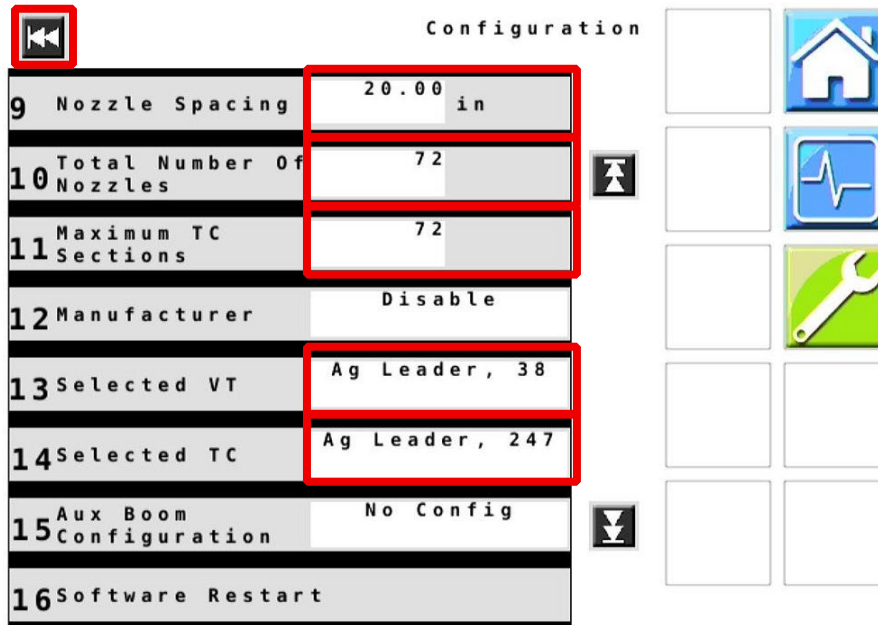

Figure 4 — Configuration Menu – Page 2
5. **Figure 4:** On Page 2 of the Configuration Menu: